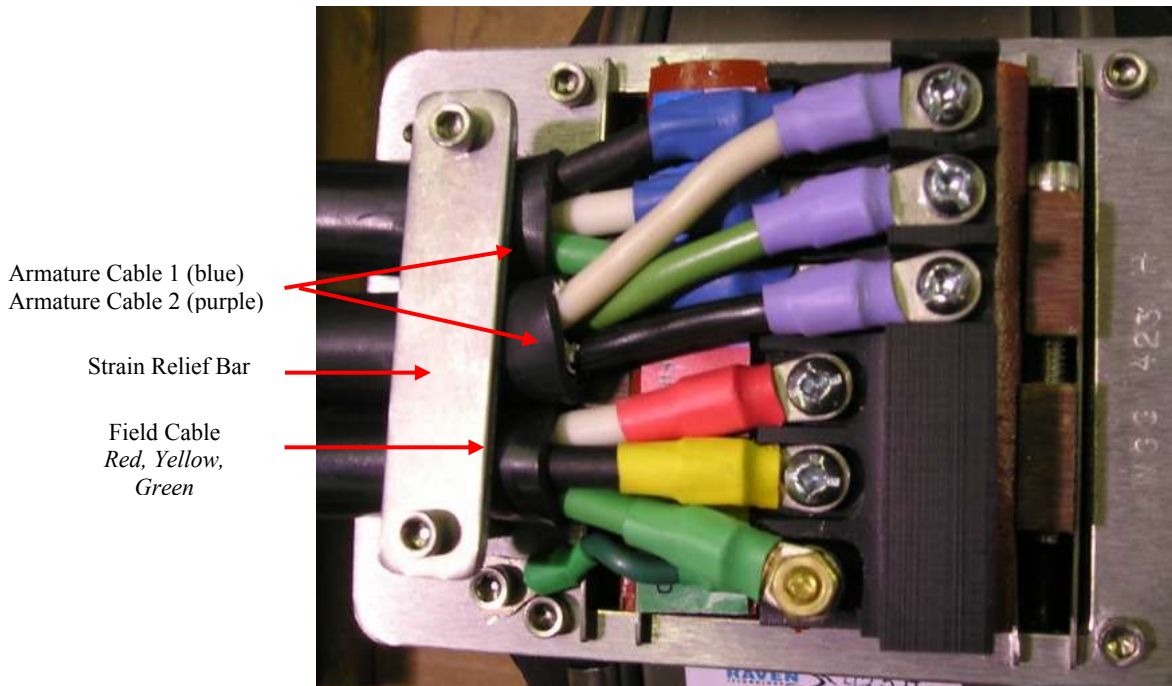

Figure 3
Wiring the Generator Junction Box: See Figure 3:
- Connect the armature and field cables to the Generator terminals according to **Figure 3**. **Notice these terminals are #2 Robertson (square) drive.**
The white conductor is heat-shrunk red and the black is heat-shrunk yellow. **Figure 3**.
Follow the color code; this will aid in future maintenance and troubleshooting. The three conductors in each cable may be connected to any terminal of the corresponding color: blue, blue, and purple, purple, purple. **Figure 3**.
The field cable conductors connect to the third, fourth, and fifth terminals in the Control Box according to **Figure 3** and the color-coded label in the Box. The white conductor is heat-shrunk red and the black is heat-shrunk yellow, and the green, green.
The gray #16 AWG 2-conductor wire runs from the Command Module to the Control Box terminals to the left of the main terminal strip, adjacent to the system fuses. Connect the 16/2 control wire to the Control terminals shown in **Figure 3**. Ring terminals and heat shrink tubing are supplied. *Care must be taken to maintain the polarity (red-red, black-black) of these wires or Control Box damage will result.*
Using care and accepted practice, establish a chassis ground and connect to the Raven Control Box ground terminal (**Figure 3**) using #10AWG or larger wire.